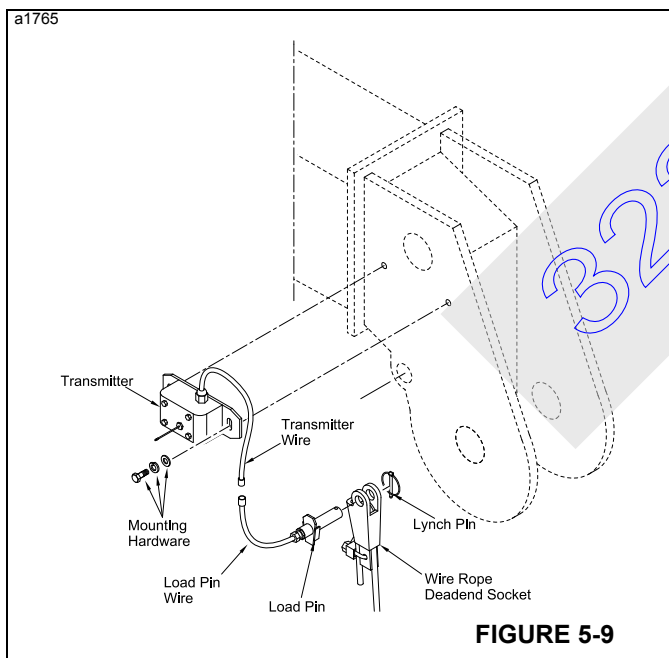

FIGURE 5-9
1. Disconnect the transmitter wire and load pin wire (Figure 5-9).
6. Install the transmitter to the boom head (Figure 5-9) using the existing hardware.
- Connect the transmitter wire (Figure 5-9) and the load pin wire to the jumper wire.